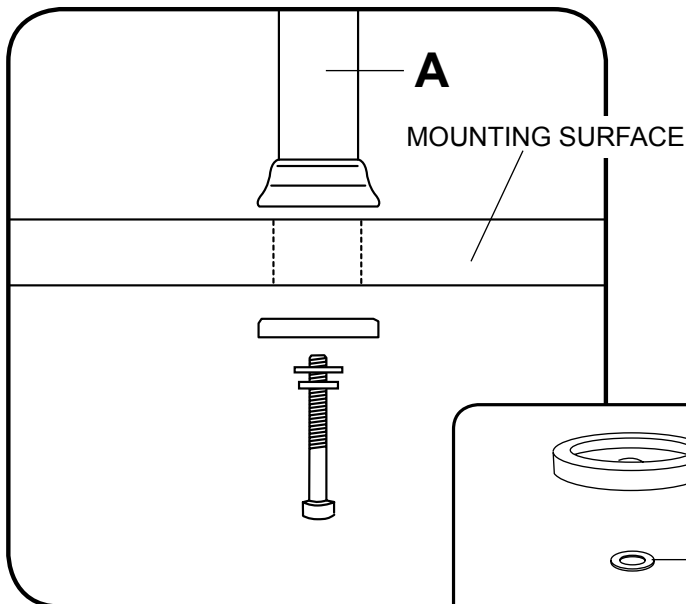

fig. 2.1
- 2** Drill .5" (13 mm) hole into mounting surface. Place pipe assembly (A) onto mounting surface and secure using one bolt (M), one spring washer (N), one flat washer (O), and one bottom washer (P) as shown in figure 2.1. Tighten bolt (M) using 8 mm wrench (Q) as shown in figure 2.2.